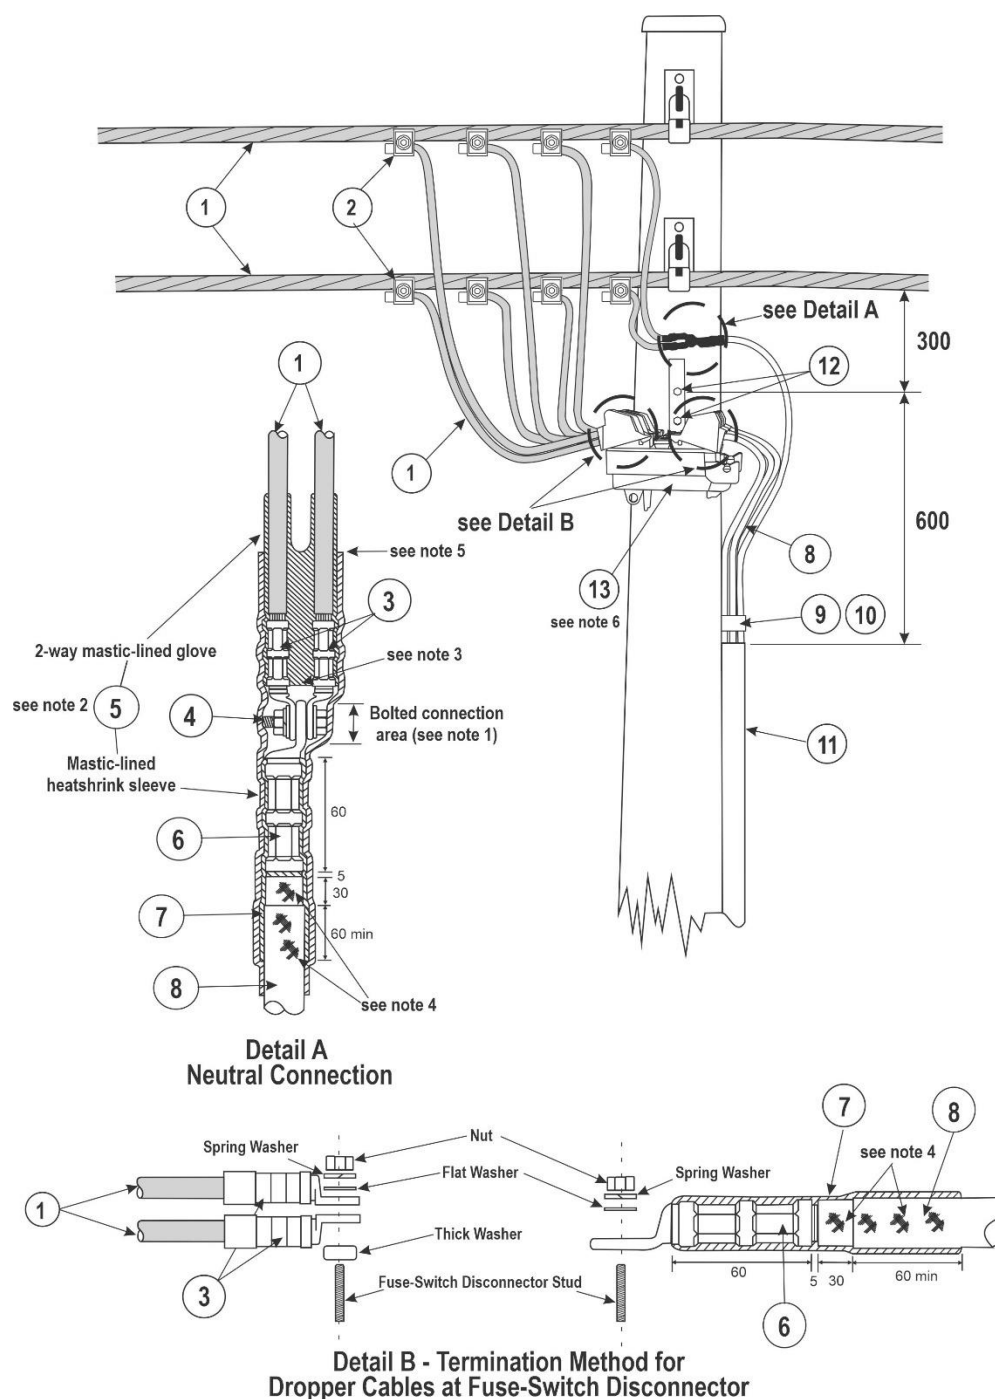

Figure 17.1 – General Arrangement (95mm² LVABC shown)
1. Cover the bolted connection area with fibreglass tape to keep it free from any adhesives flowing from item 5.
2. The heatshrink components required for the bolted connection are packaged as a single kit. Refer to item 5 for details.
4. Abrade the cable sheath and the cable insulation to the dimensions shown on Figure 17.1.